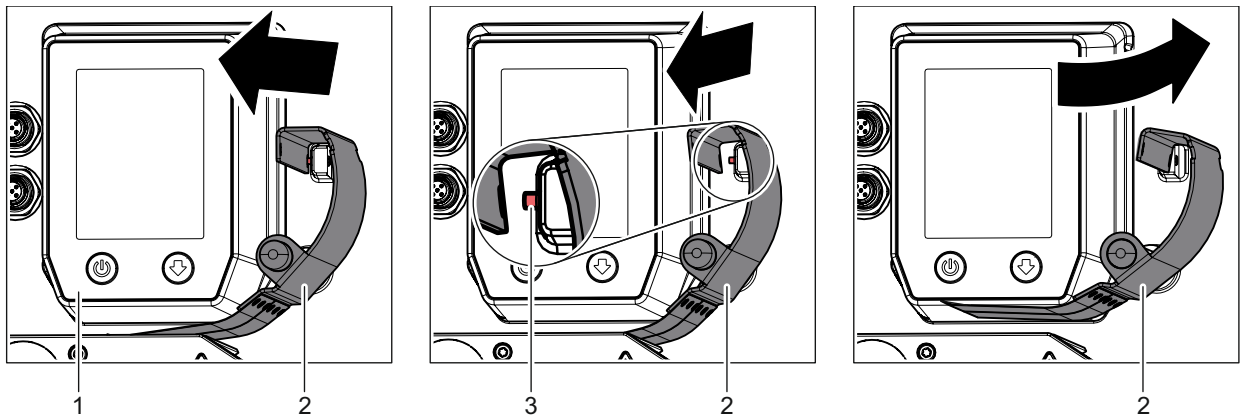

Figure 69 Releasing the web plate
- ▶ To loosen the mandrel (5), hold the plate of the rewinder (1) and turn the retaining knob (4) clockwise.
- ▶ Place the material (3) on the mandrel (5) as shown, and slide it under at least one bracket (2).
- ▶ To tighten the mandrel (5) and secure the material (3), hold the plate of the rewinder (1) and turn the retaining knob (4) counterclockwise.
- ▶ Swing back the web brake (▷Figure 69/2) and lock it into place..